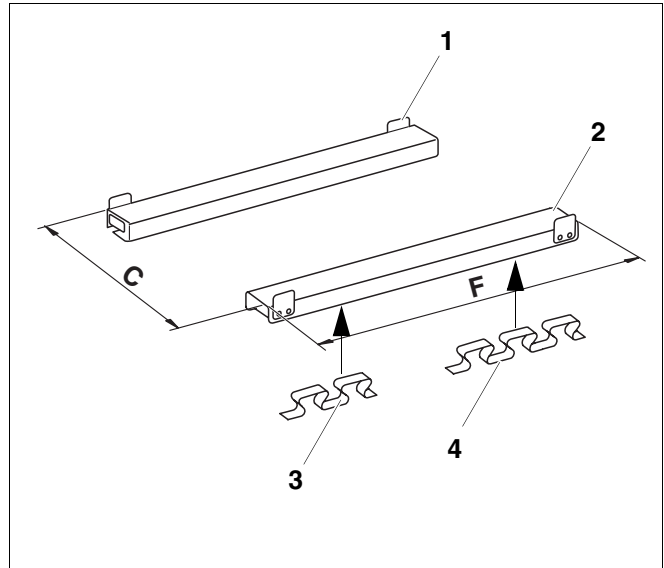

Fig. 3 Anti-vibration support
- Insert the longer part of the longitudinal anti-vibration bracket (Fig. 3, **Item. 4**) from the front and the shorter part (Fig. 3, **Item. 3**) from the rear into the channel sections (Fig. 3, **Item. 2**).
- Position, align and place the boiler on the supports. The boiler support should be flush with the boiler back wall. The end-stop plates (Fig. 3, **Item. 1**) should contact the channel section of the boiler.